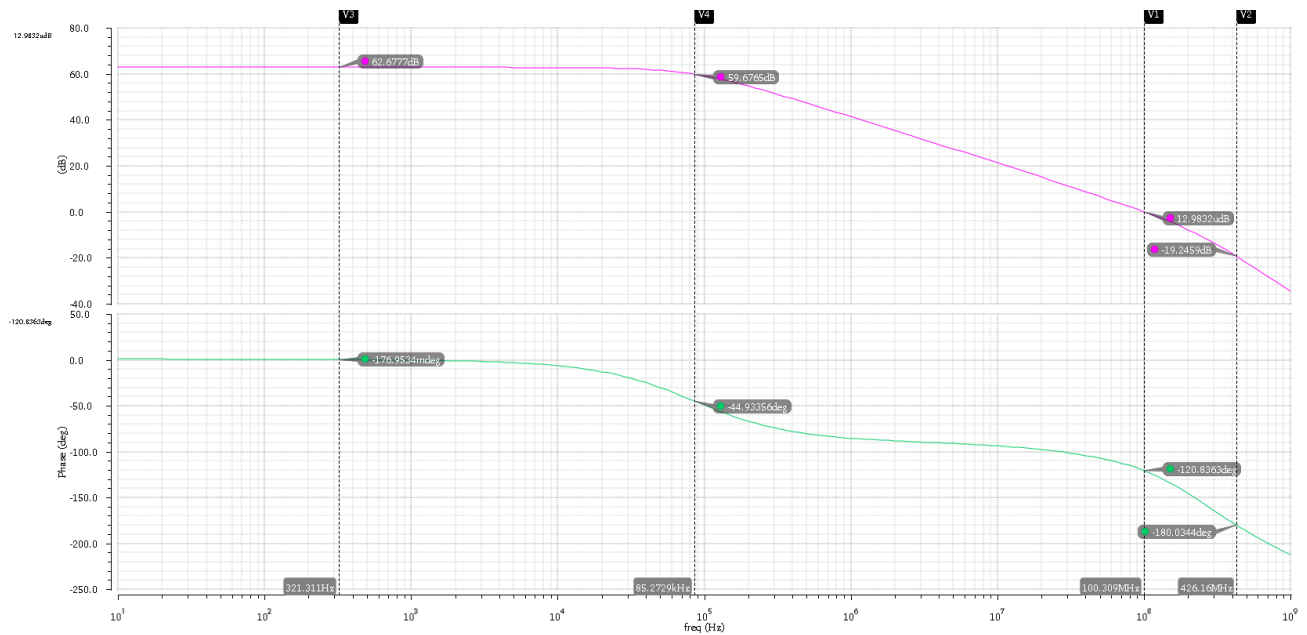

Figure 9: AC responses of the OPAMP with PMOS as a compensation  $R_z$  where  $A_0=1359.88$
d. Figure 9 shows the following information, DC gain( $A_0$ ), -3dB bandwidth ( $W_{-3db}$ ) and unity gain bandwidth( $w_u$ ).